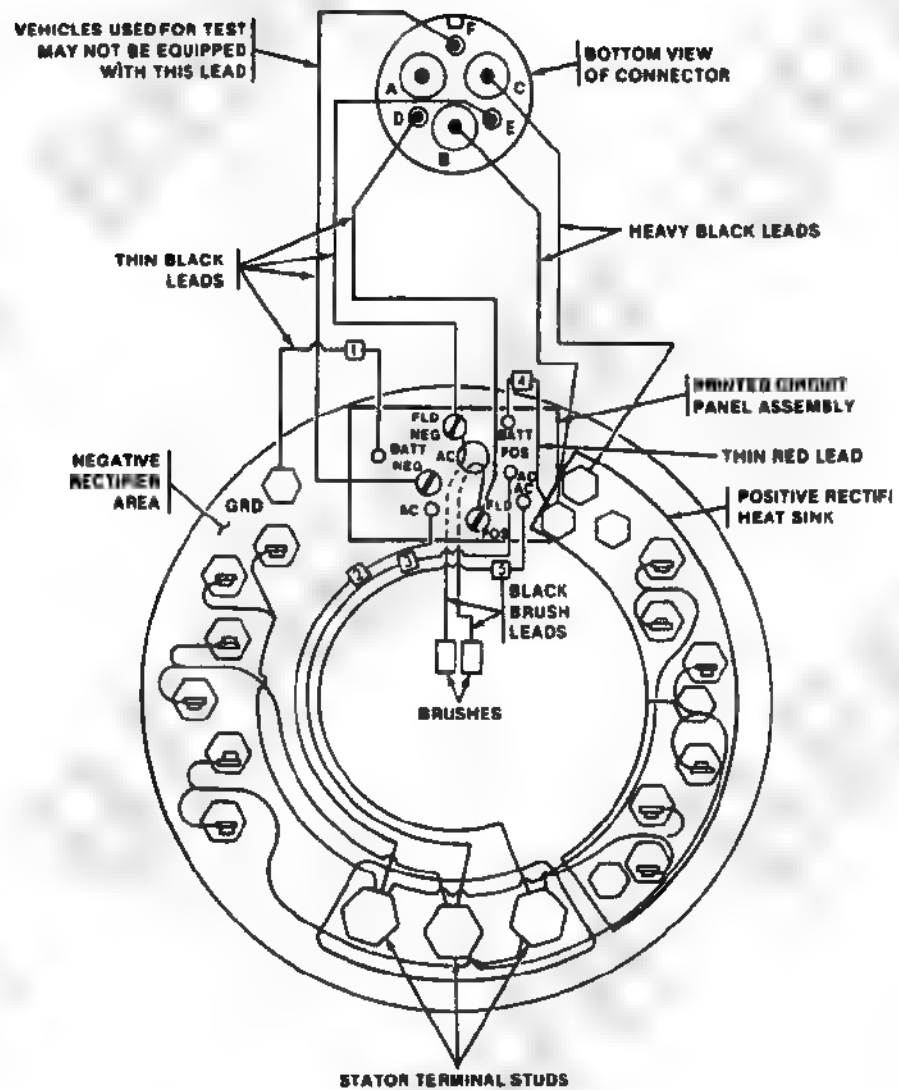

Figure 3-12. Drive End Housing Assembly Interconnection Diagram.
(10) Install brush holder, brushes, and printed circuit panel assembly in drive end housing assembly (fig. 3-3). Use figure 3-12 as a guide when making lead connections
(11) Install mounting plate and connector assembly to drive end housing assembly (**fig. 3-2**). Use **figure 3-2** and **figure 3-12** to make lead connections